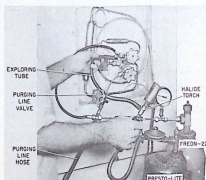

FIGURE 12
13. Leak test. See figure 12. If leaks are found at the flare fittings, retighten the flares. If leaks remain, re-flare the tubing.